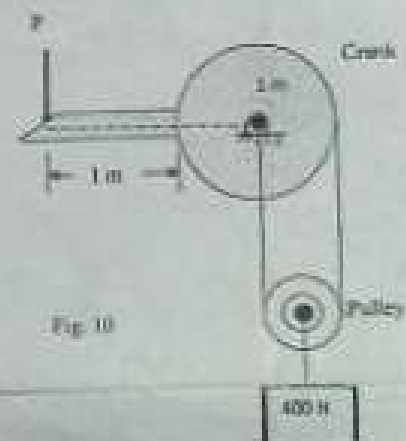

Fig. 10
- (b) A pulley crank mechanism (Fig. 10) is used to raise 400 N weight. Using the principle of virtual work, determine the force  $P$ . Neglect the weight of the pulley.